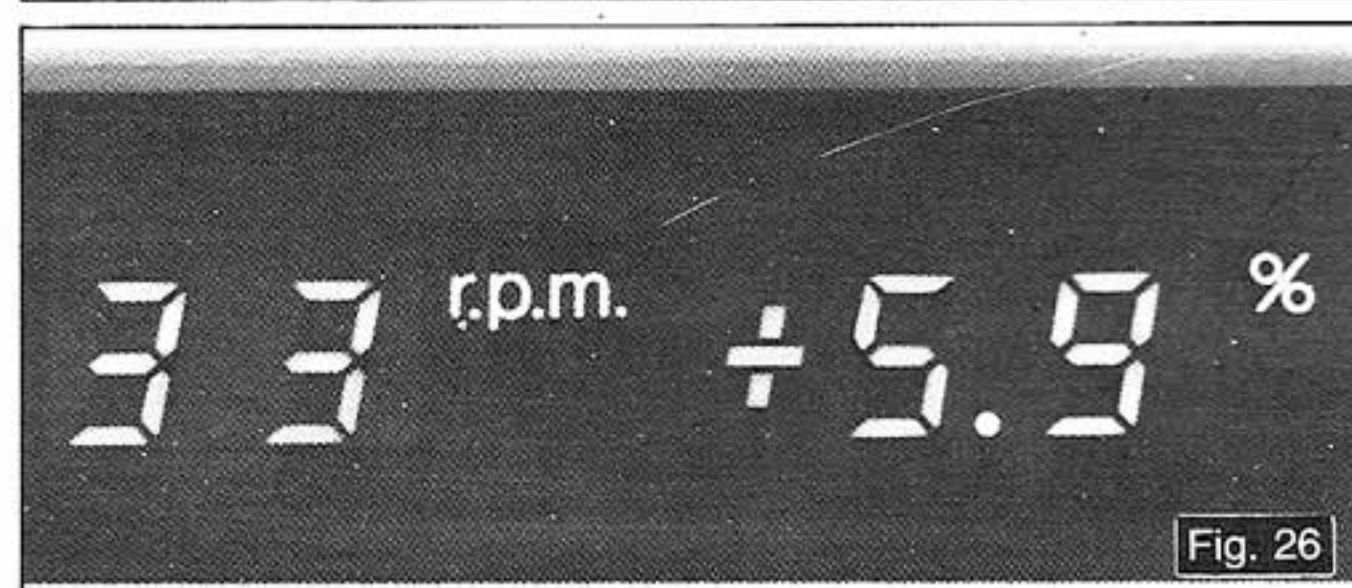

Fig. 26
- The pitch control also enables you to accurately and precisely tune musical instruments, and by varying the pitch slightly to obtain a different musical note from phono discs. (See Fig. 26).